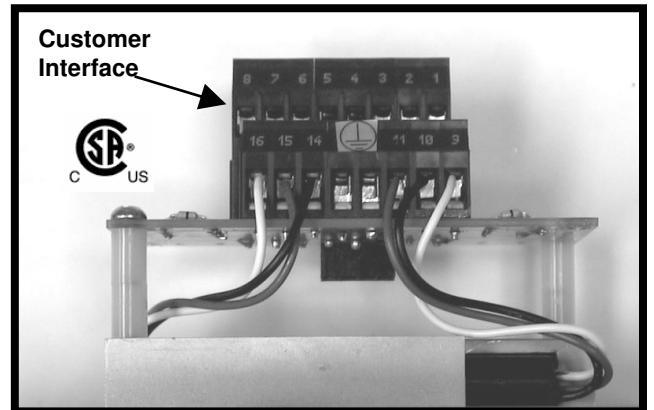

Figure 4: Reed Switch Terminal Strip Output Interface
Interface to the 16 position terminal strip shown in Figure 4 is defined in Table II.
- C. Check the reed switch interfaces to the terminal board for loose connections. For the power relay the reed switch(es) connect to the terminal strip on the underside of the PCB. For the reed switch outputs the reed switch(es) connect to positions on the bottom row of the terminal strip on the top of the PCB (see Figure 4).